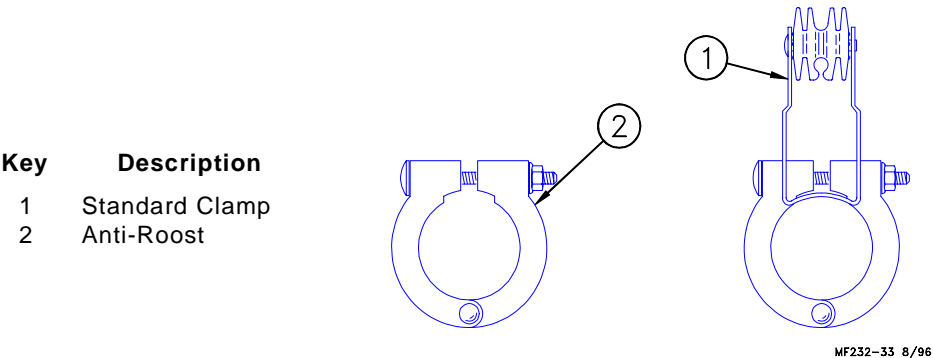
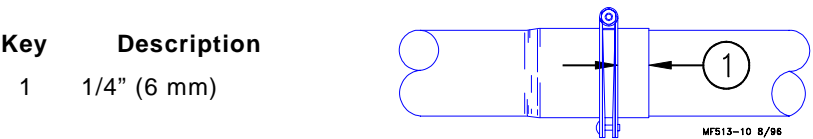

Figure 26. Tube Clamp and Anti-Roost Bracket (side view)
Figure 27. Tube Joint Connection (side view)
- 3. Place a Tube Clamp Assembly **or** Clamp/Anti-Roost Bracket at each joint. Figure 26 shows the standard Clamp and Clamp/Anti-Roost Bracket. Make sure that each tube fits as far as possible into the belled end of the next tube. The outlet holes must point down. Install tube clamps as shown in Figure 27.
- make sure clamp is located, as shown in Figure 27.